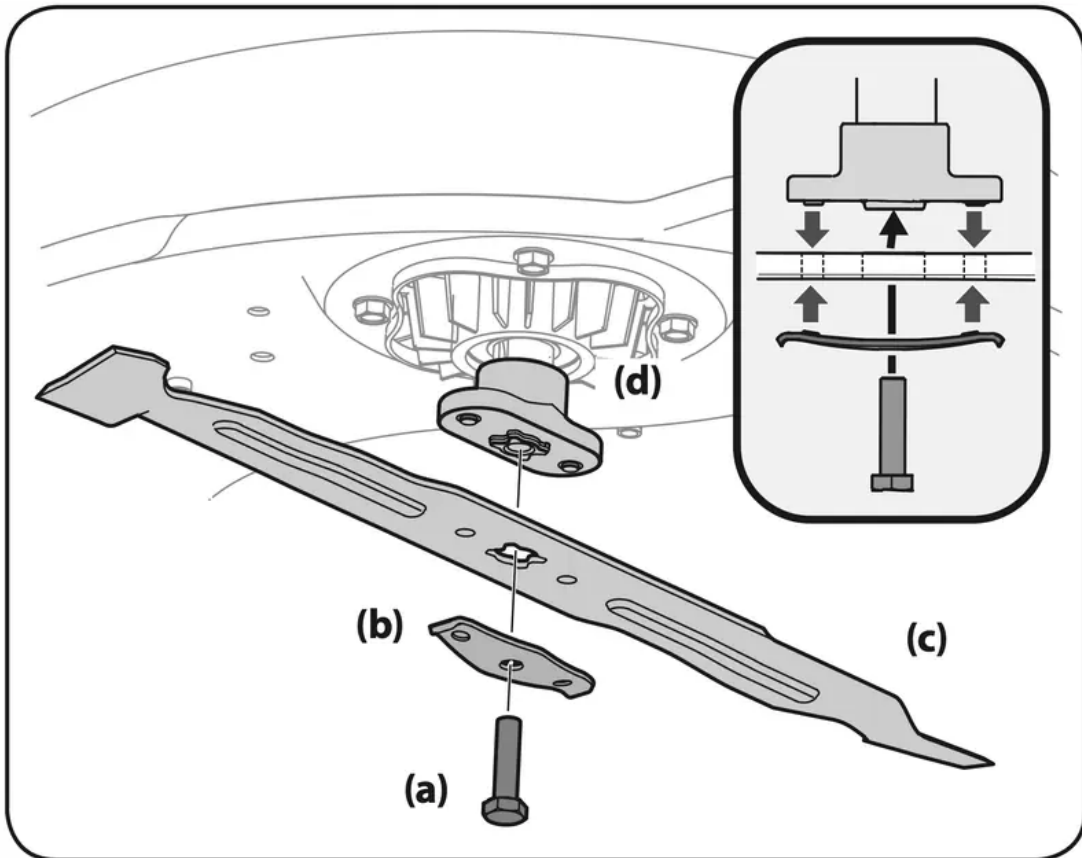

Figure 24
3. Remove the hex screw (a) and the blade bell support (b) which holds the blade (c) and the blade adapter (d) to the deck motor. See Figure 24.
4. Remove blade (c) and adapter (d) from the deck motor spindle See Figure 24.